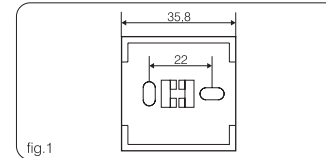

fig.1
- wall mounting with back plate (fig. 1) and terminal cover (provided)